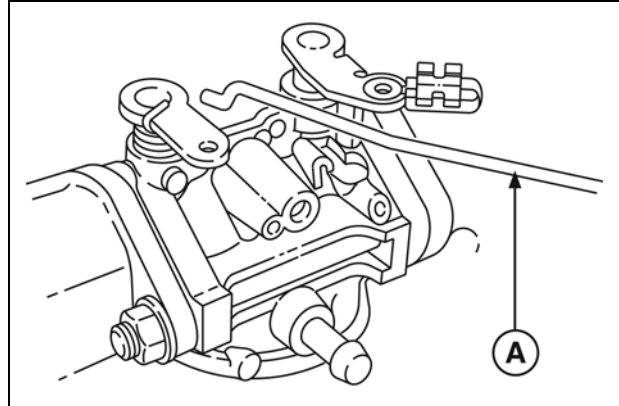

Figure 3
NOTE: Early style choke links were manufactured with a “Z” bend (Figure 3). To remove choke link the governor control bracket must be removed. Proceed to Steps 5 and 6.
6. Remove choke link (A, Figure 3) from choke lever.